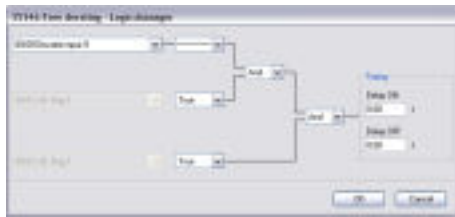

Fig. 272: LogicsManager function "Free derating"
3. ➤ Configure the LogicsManager function "87.60 Free derating" as shown in (Fig. 272) to enable derating of power if discrete input [DI 09] is energized.